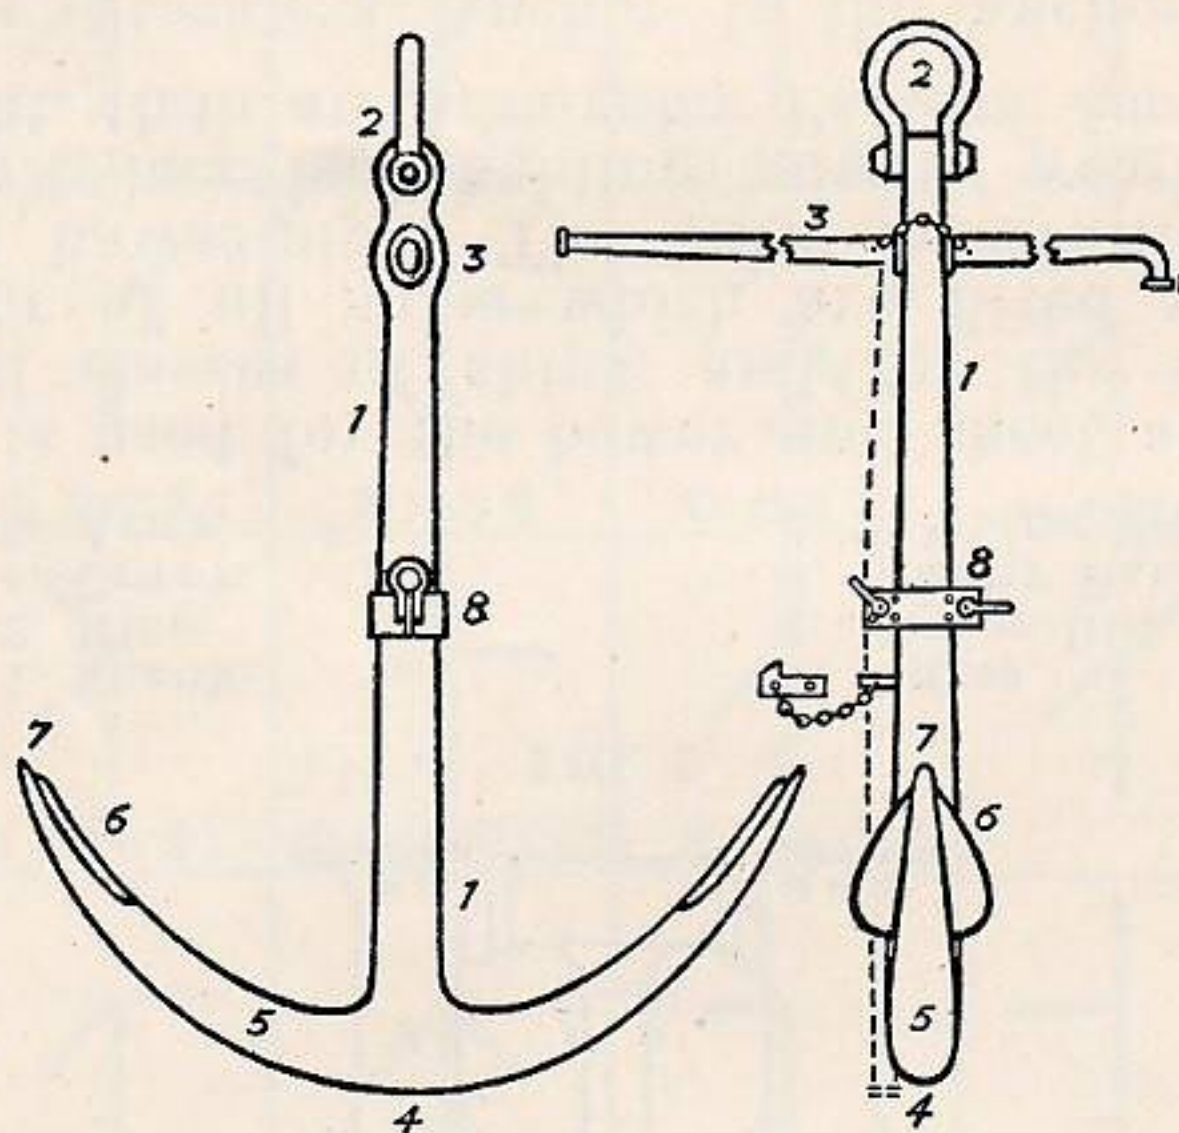

FIG. 1
### (1) ADMIRALTY PATTERN (See Fig. 1)